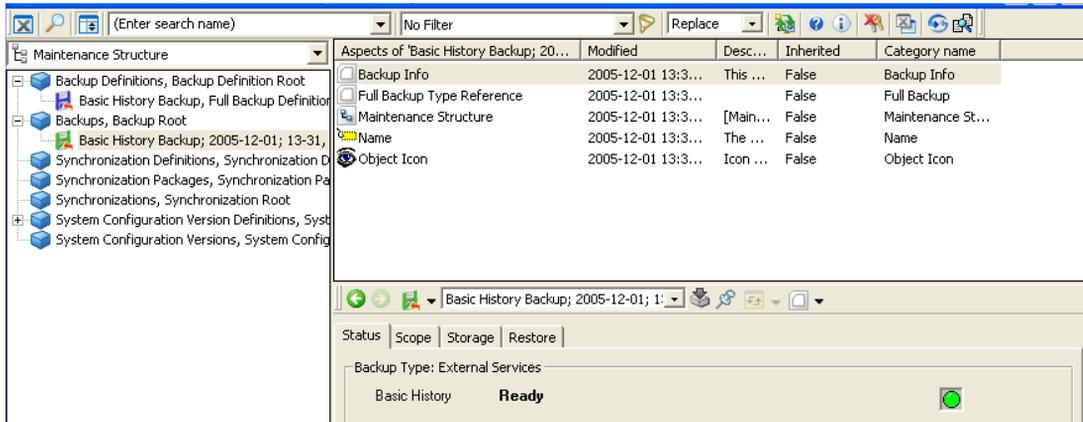

Figure 50. Backup Info aspect
2. Select the Backup Info aspect, see Figure 50.